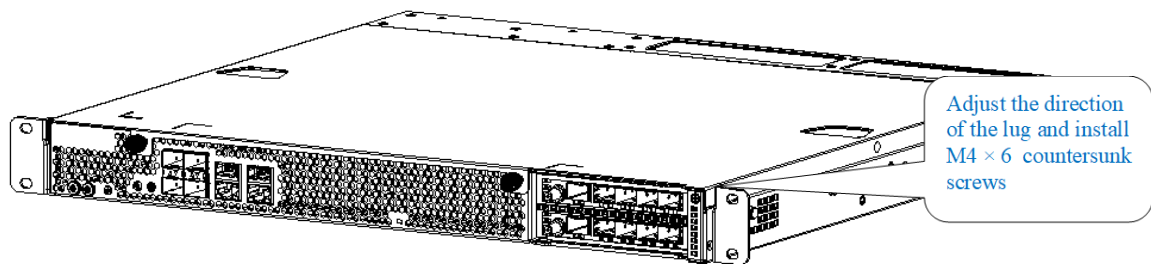

Figure 3-4 Installation diagram of hanger for cabinet
Step 1: Take the AU equipment out of the package and install the lug for the installation of the supporting tray on the AU, as shown in Figure 3-4 Installation diagram of hanger for cabinet.